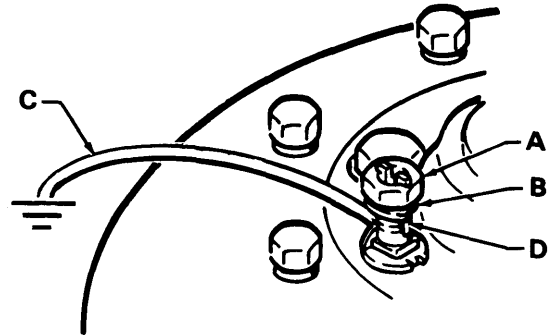

Fig 1
1. **Pump:** use a ground wire and clamp as shown in Fig 1.
To ground the pump, loosen the grounding lug locknut (A) and washer (B). Insert one end of a 12 ga (1.5 mm²) minimum ground wire (C) into the slot in lug (D) and tighten the locknut securely. See Fig 1. Connect the other end of the wire to a true earth ground such as a steel building column or water pipe. Always check your local code. See **ACCESSORIES** for available ground wire and clamp.